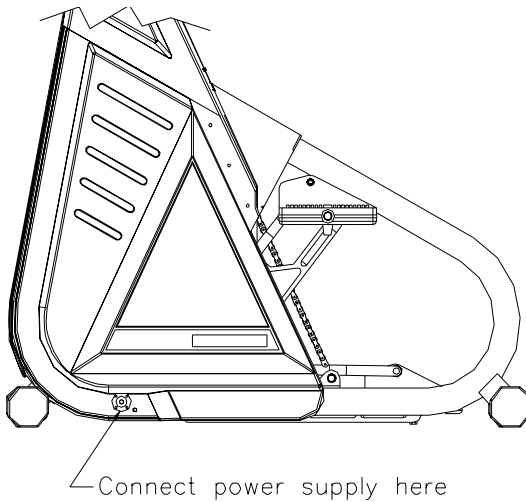

Figure 4: DC Power Connector
4. If you have a 4600/4400 CL, skip to step 9. If you have a 4600/4400/4200 PT, connect the DC cable of the power supply to the connector near the bottom of the left side cover (see Figure 4).